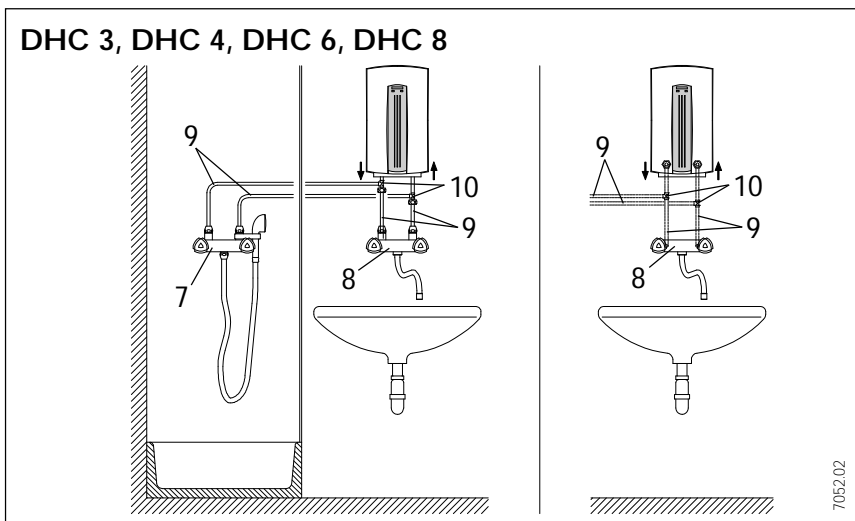

Fig. 11
**Examples of installations with conventional pressure fitting** (Fig. 11).